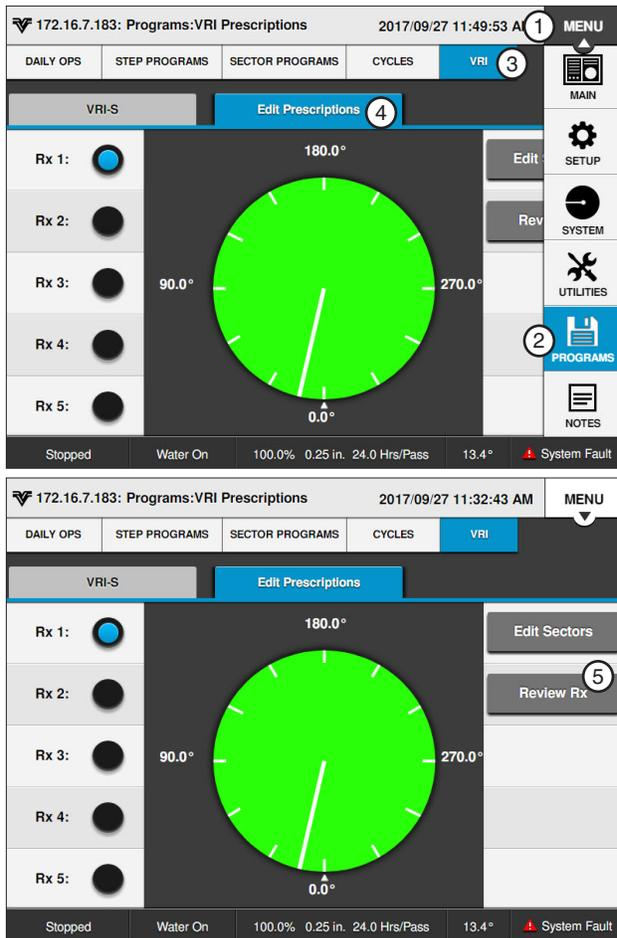

Figure 160-1 1. Menu
The Review Rx button is used to review the % of depth multiplier for each sector of the selected Rx #. Refer to Figure 160-1.
1. Push **Menu**, **Programs**, **VRI** and **Edit Prescriptions** to display the Edit Prescriptions. Refer to Figure 160-1.